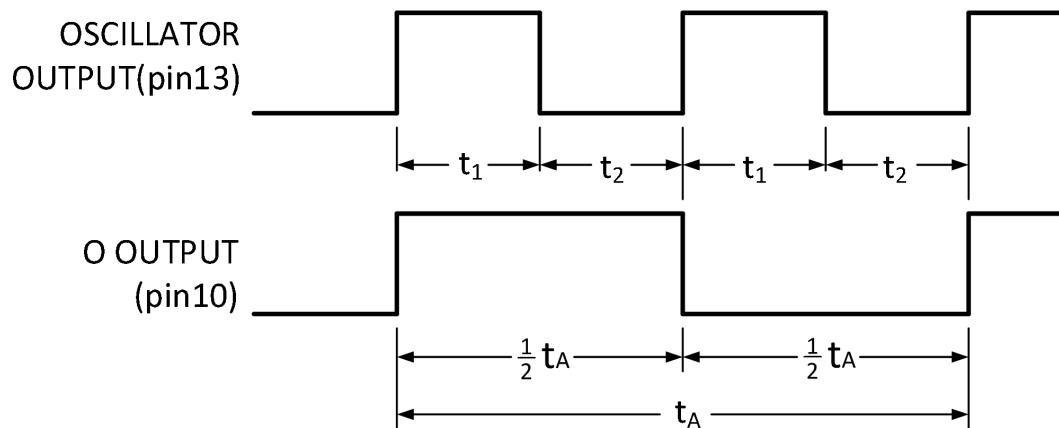

Figure 4. Astable Mode Waveforms
| Free Running | 4, 5, 6, 14 | 7, 8, 9, 12 | - | 10, 11, 13 | t _A (10,11) = 4.4 R _t C _t t _A (13) = 2.2 R _t C _t (See Figure 4) |